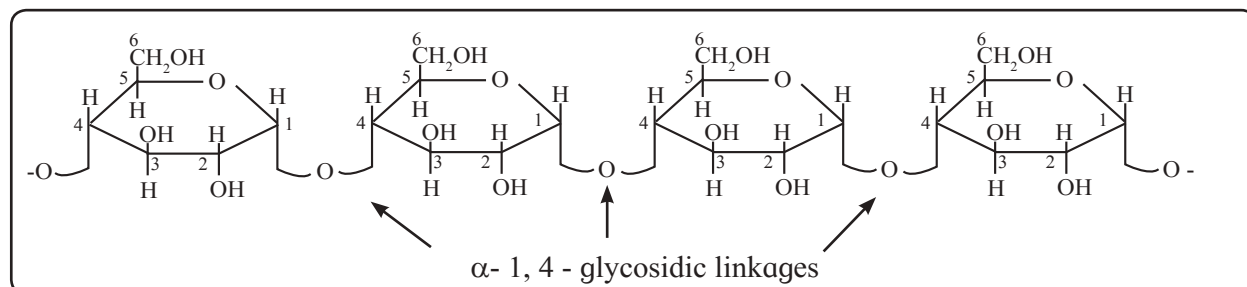
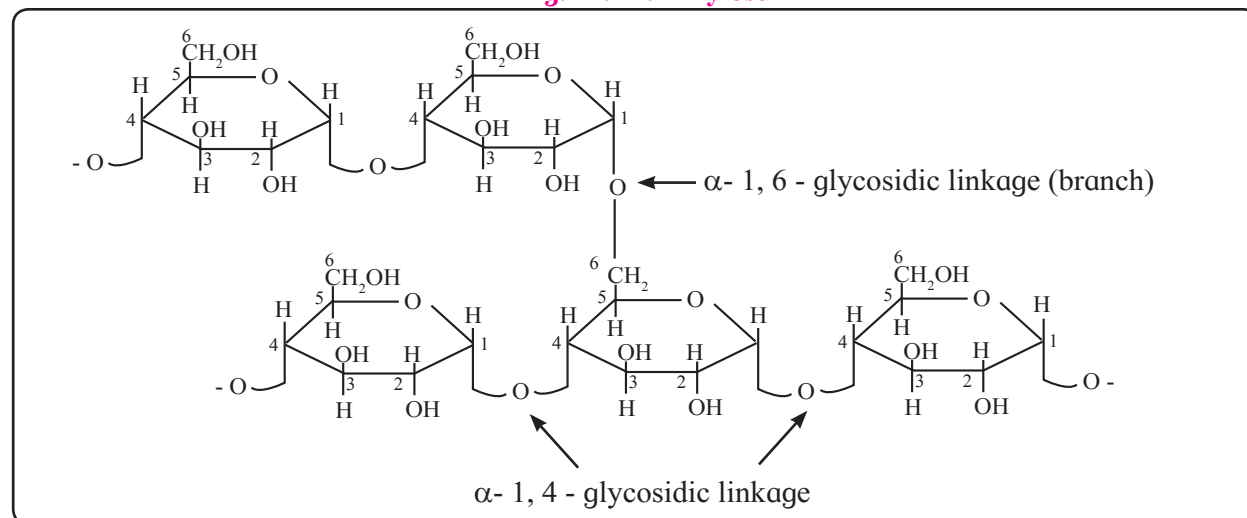

Fig. 14.11 : Amylose
Fig. 14.12 : Amylopectin
a. Starch : Starch is a polymer of α -D-glucose. Starch has two components, namely, **amylose** (15-20%) and **amylopectin** (80-85%). Amylose is soluble in water and forms blue coloured complex with iodine. It contains 200-1000 α -glucose units linked by α -1,4- glycosidic linkages giving rise to unbranched chain of variable length (Fig. 14.11). Amylopectin is water insoluble component of starch which forms blue-violet coloured complex with iodine. It is a branched chain polysaccharide. In amylopectin, chains are formed by α -1,4- glycosidic linkages between α -glucose units, where as branches are formed by α -1,6- glycosidic linkages (Fig. 14.12).